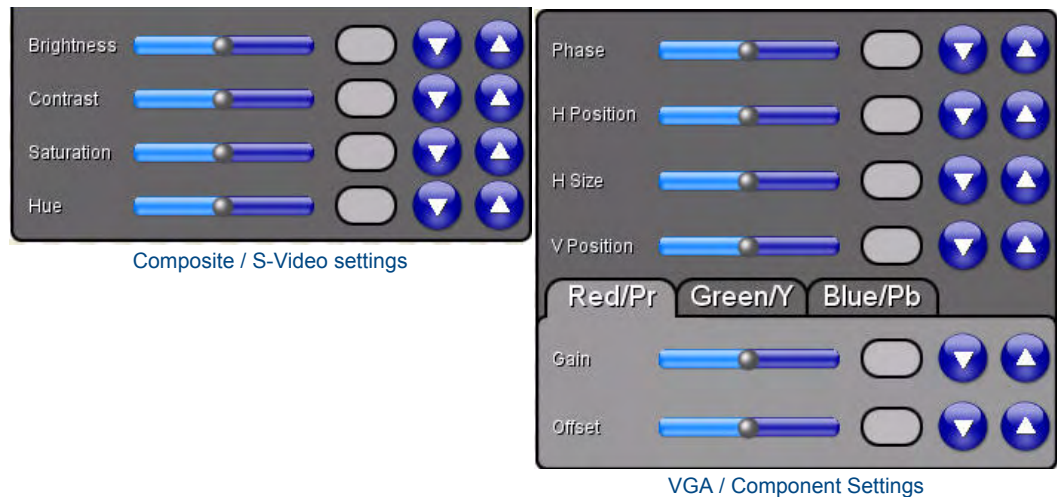

FIG. 66 Video Settings page - Video Settings
3. Depending on the Input Type assigned to the selected Input, some or all of the video settings below are provided (FIG. 66):